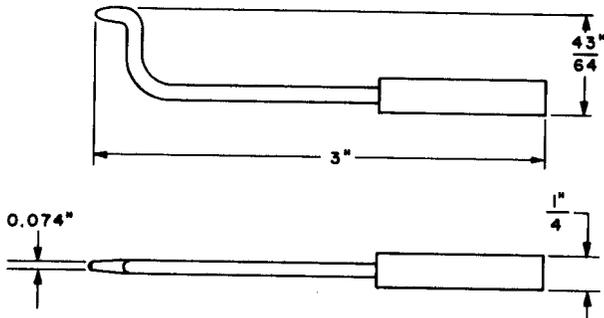

Fig. 3—340 Adjusting Key Tool
2.03 **340:** The 340 tool (Fig. 3) is an adjusting key for use on polarized and 267-type relays.